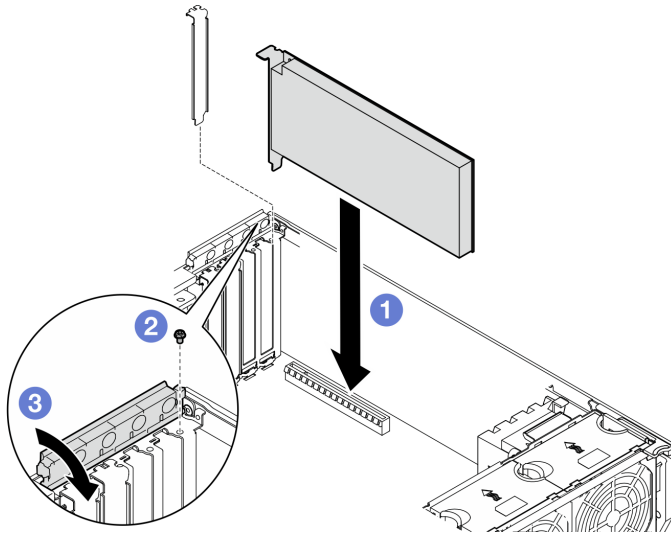

Figure 105. Installation of a HL PCIe adapter
- To replace an existing PCIe adapter, skip to the procedure of installation: Figure 105 “Installation procedure of a HL PCIe adapter” on page 130